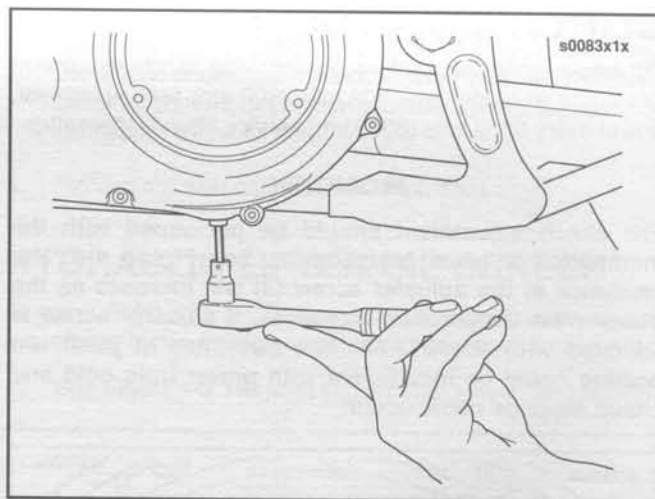

Figure 1-4. Removing Chaincase Drain Plug
1. See Figure 1-4. Remove drain plug at bottom of primary chaincase. Drain lubricant into suitable container.